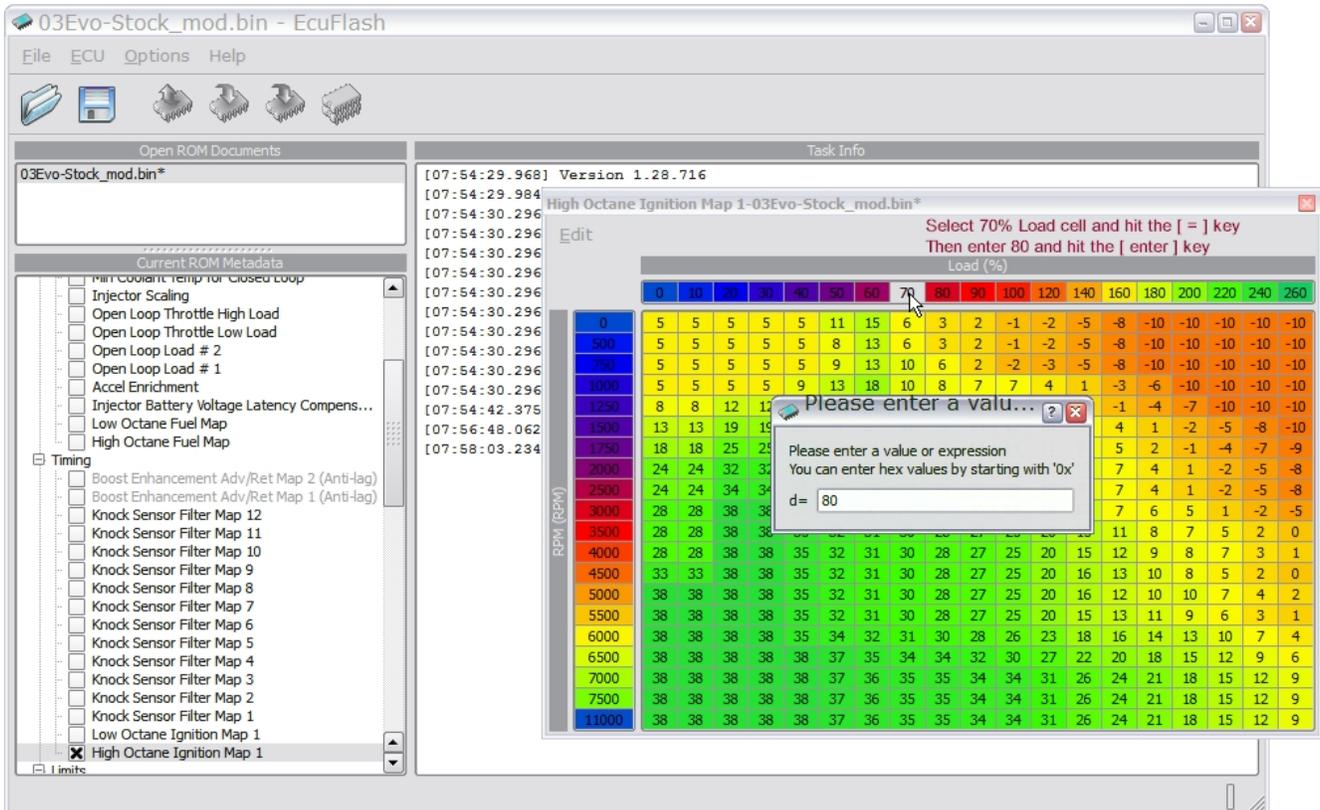

Figure 3, stock* 2003 Evolution VIII ECU High Octane Ignition Map Edit 70% Column
a.) Modify 70% column header (figure 3)